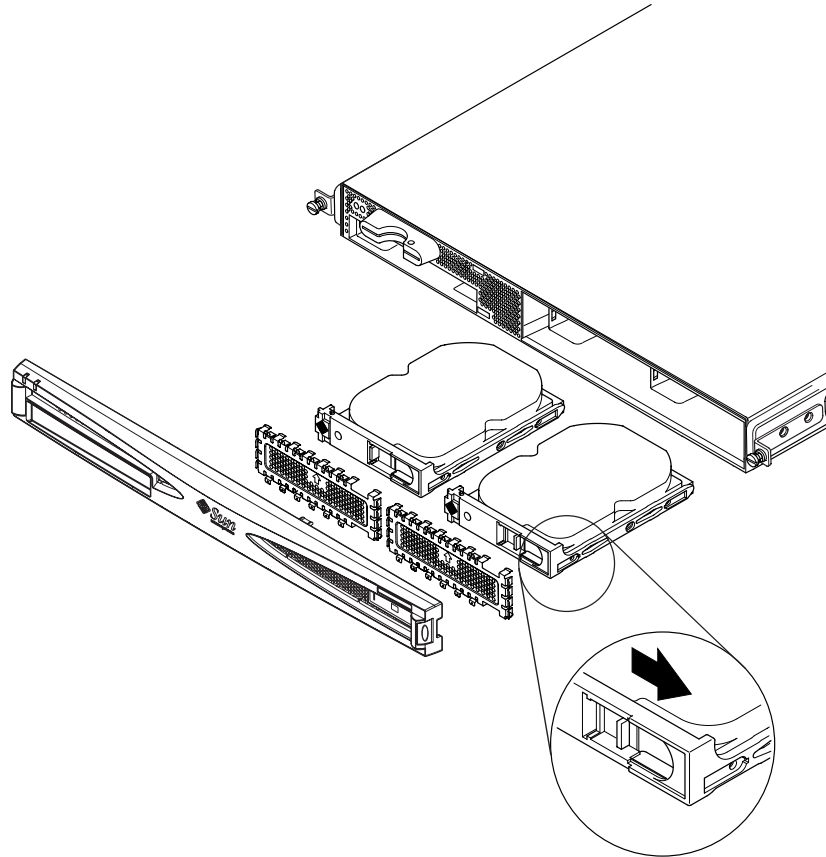

FIGURE 4-1 Inserting and Removing Hard Disks
- If you are *installing* a Hard Disk Drive, slide it into its tray at the front of the server (see FIGURE 4-1). Push it in firmly until the metal lever starts to close: this indicates that it has engaged with the backplane connector. Then, push the metal lever until the disk drive clicks into place.
- If you are *removing* a Hard Disk Drive, locate the latch at the front of the disk and slide it to the right (see FIGURE 4-1). This causes the metal lever to open. Holding the latch, pull the disk part way out of its bay and leave it for a minute to make sure it has stopped spinning. (If a disk is fully removed while it is still spinning, gyroscopic forces can damage its bearings.) When it has stopped spinning, pull it out of the chassis.